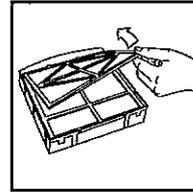

Fig. 30
- Lift the pre-filter screen off of the filter assembly by firmly gripping the pre-filter and pulling it away from the filter assembly (Fig. 30).